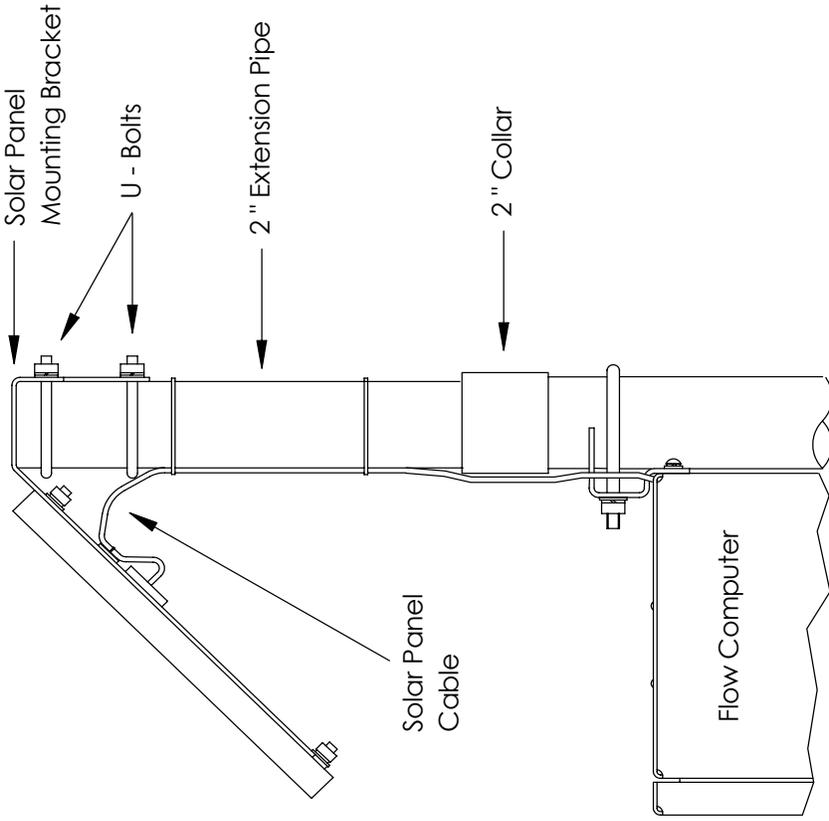

Figure 6 (Solar Panel Mounting)
1. Attach 2-inch pipe collar to top end of XFC^{G4} or XRC^{G4} mounting pipe. Securely tighten. (See Figure 6)